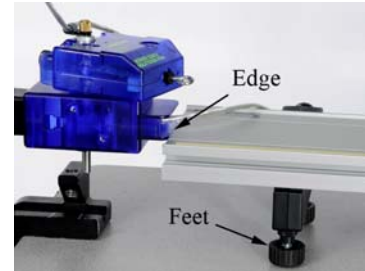

Figure 7: Track Height
9. The edge of the track rests up against the Rotary Motion Sensor. Use the Screw Feet to adjust the height of the track to match the edge of the Rotary Motion Sensor as shown in Figure 7.